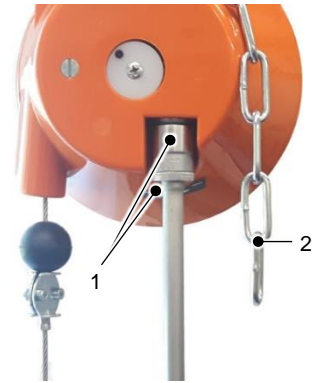

Fig. 5.3 – Fine-tuning of the spring balancer
The spring balancer is secured with a safety chain (2), see Fig. 5.3 Fine-tuning of the spring balancer. This must be secured in a fixed position independent of the suspension of the spring balancer.